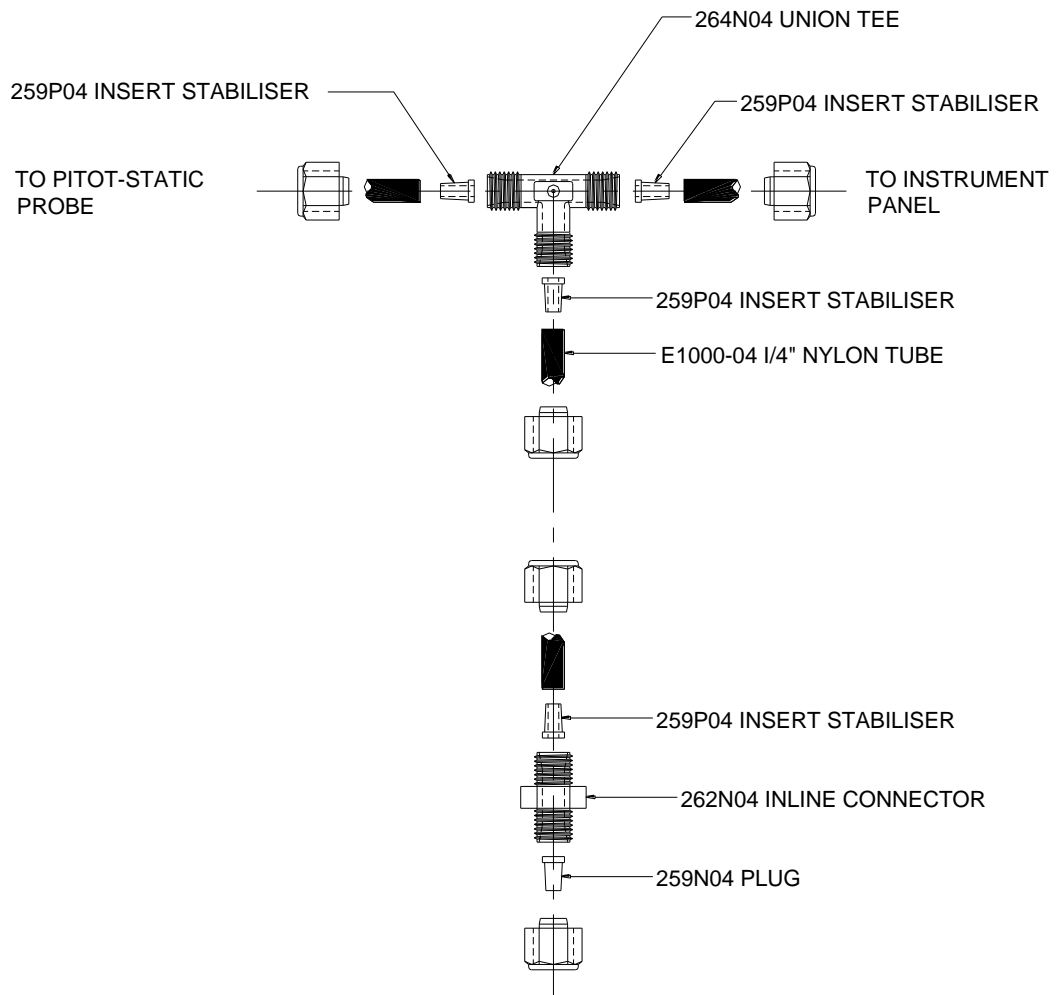

Figure 9-3 – Pitot drain installation (S/N GA8-02-020)
3. Cut the pitot line and install a drain line using a 264N04 union tee, 259N04 insert stabilisers, 262N04 inline connector, 259N04 plug and E1000-04 ¼ NS nylon hose. Refer to Figure 9-3.